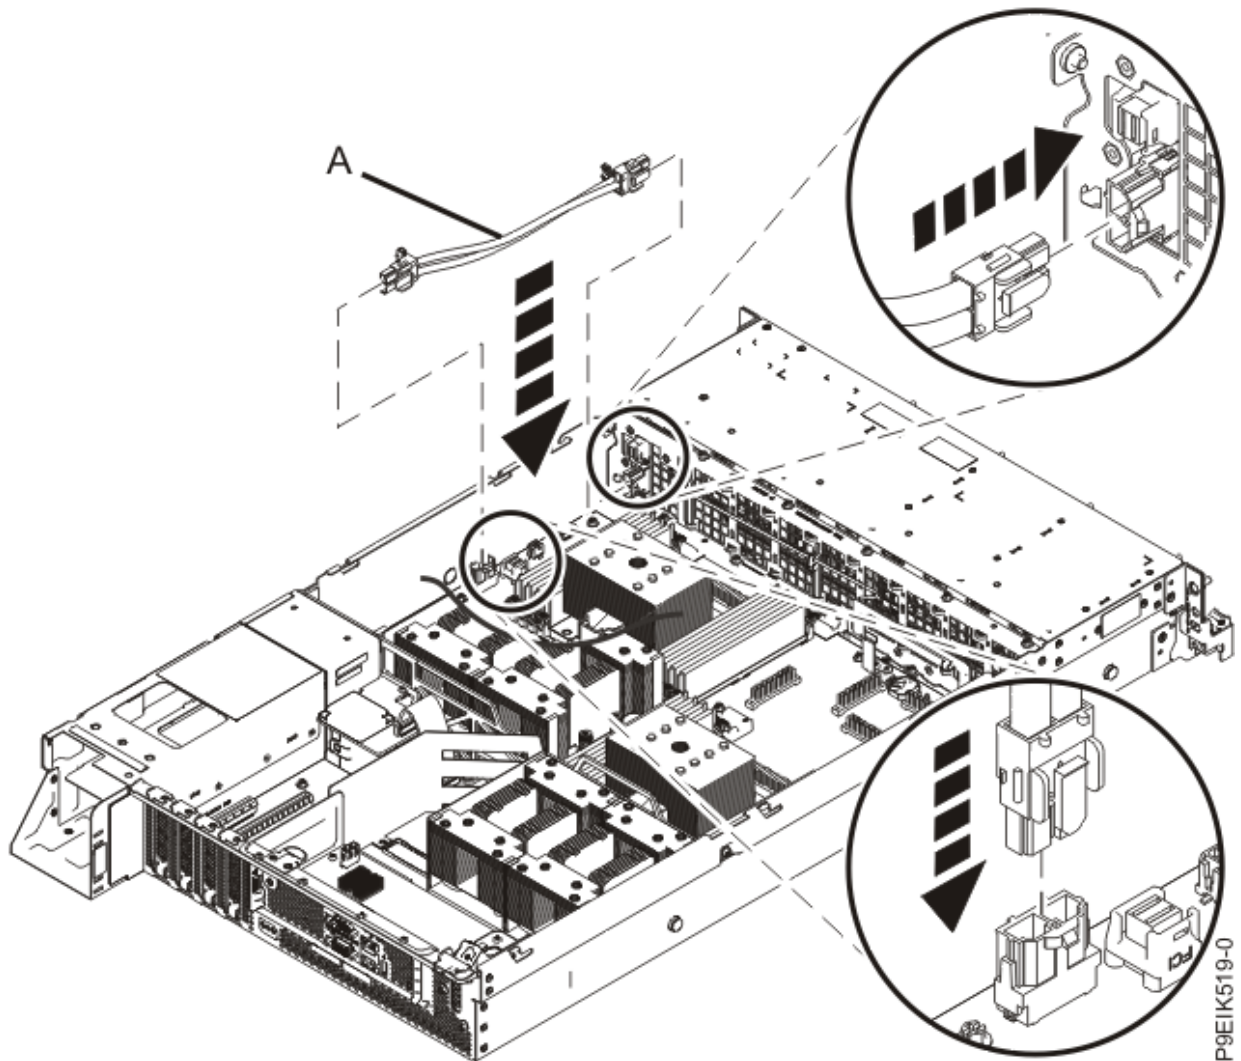

Figure 23. Installing the fan power cable
2. Route the fan power cable (A) connector end through the opening and connect it to the power riser as shown in Figure 23 on page 33.
3. Connect the other end of the fan power cable into the disk drive and fan card as shown in Figure 23 on page 33.